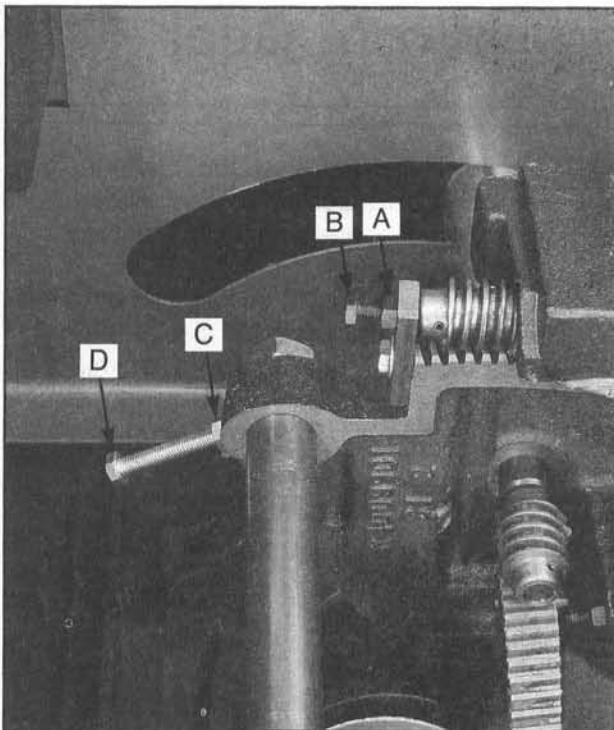

Figure 40.
5. If a gap exists at either the top or the bottom of the square, loosen lock nut (A) and adjustment bolt (B) indicated in **Figure 40**.
9. If variations exist, loosen the lock nut (C) and adjust the stop bolt (D) until your blade and square match. **Figure 40**.